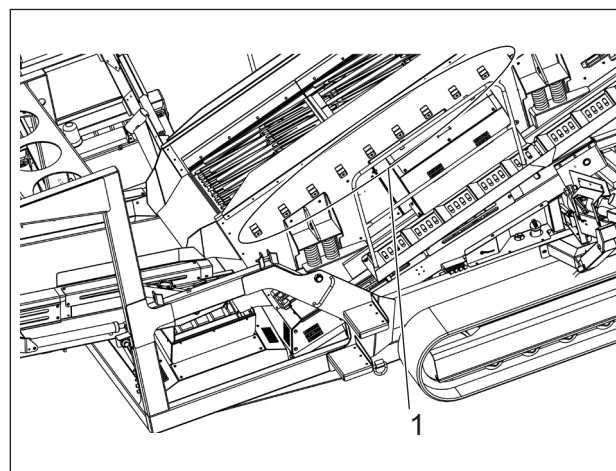

Figure 9.61 - Top Deck Mesh Fasteners
19. Insert screen tension bar (B) ensuring it is fitted as shown.
20. Replace pins and spring pins (C), 1 off LHS/RHS.
23. To release side tension mesh, slacken the nuts, remove the side clamps and then remove the mesh, Reference: Figure 9.61.